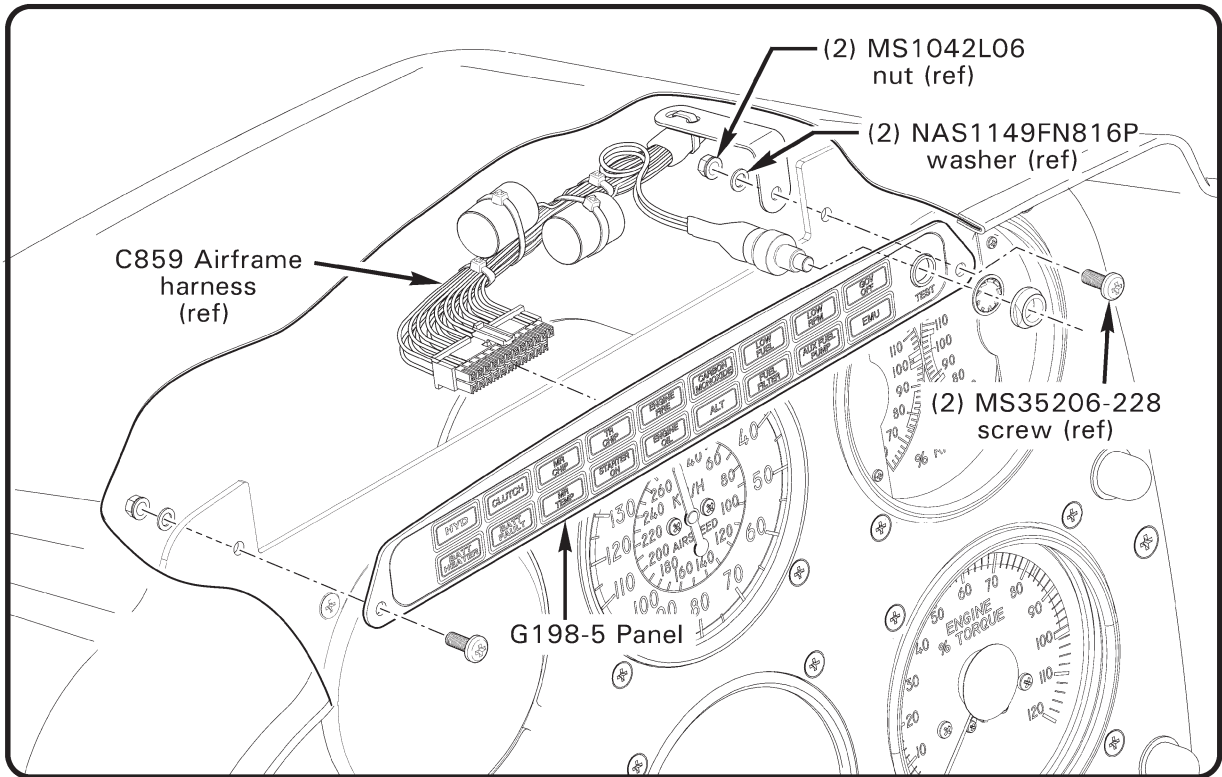

FIGURE 1 Indicator Panel installation
3. Refer to Figure 1. Remove jam nut behind the console face and G198 annunciator panel. Remove the push to test switch to annunciator panel. Retain hardware and disconnect existing annunciator panel from airframe harness.